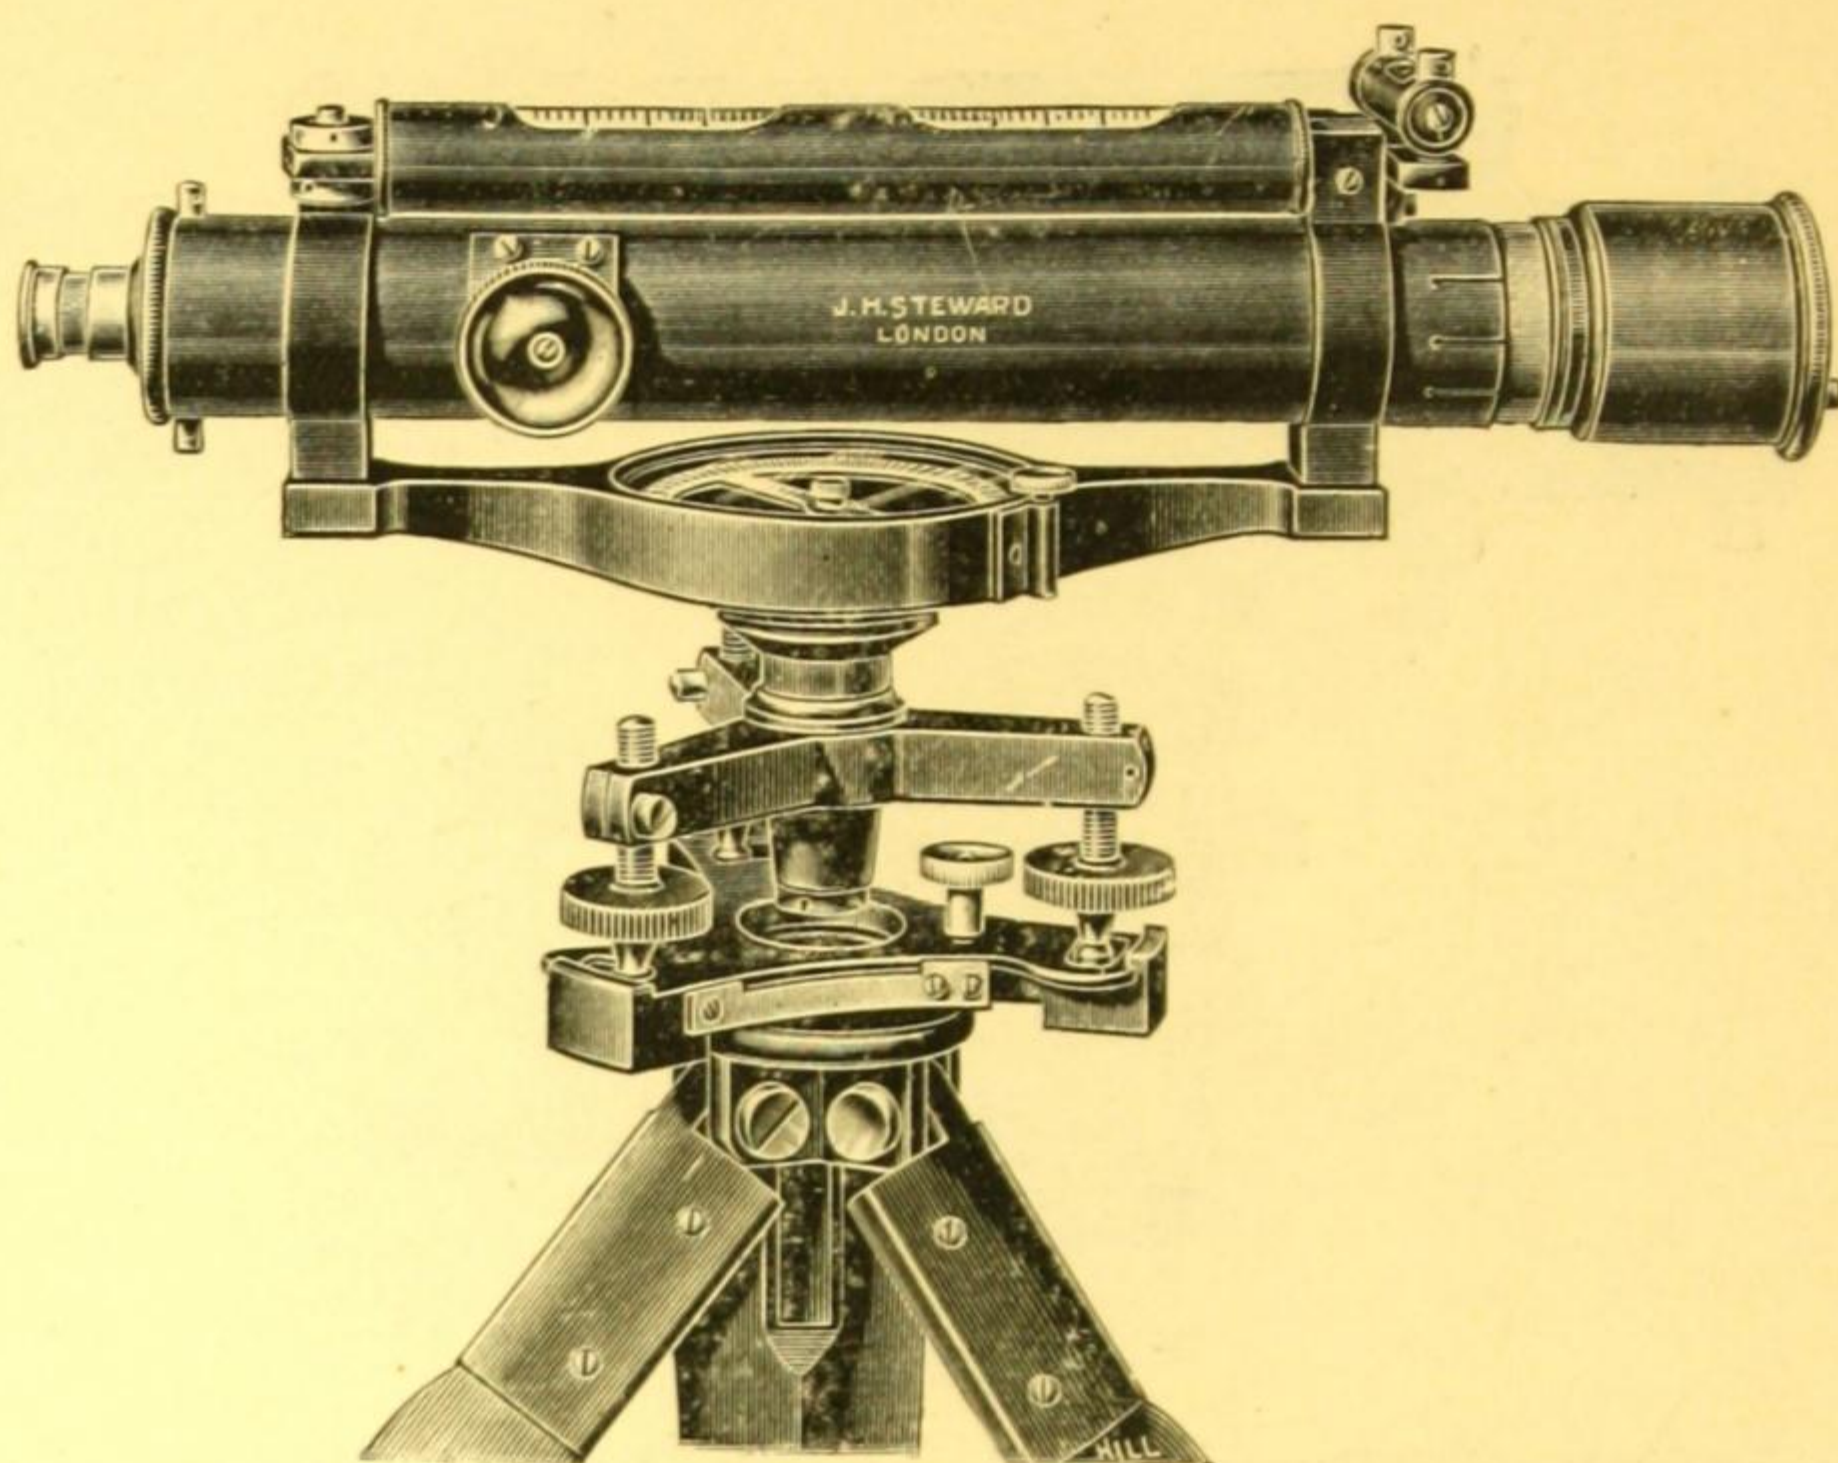

Fig. 13. Dumpy Level, with Compass.
- SM 62.—**Circular Compass** as illustrated Fig. 13, fitted to either of the Dumpy Levels. .... **£3 0 0**